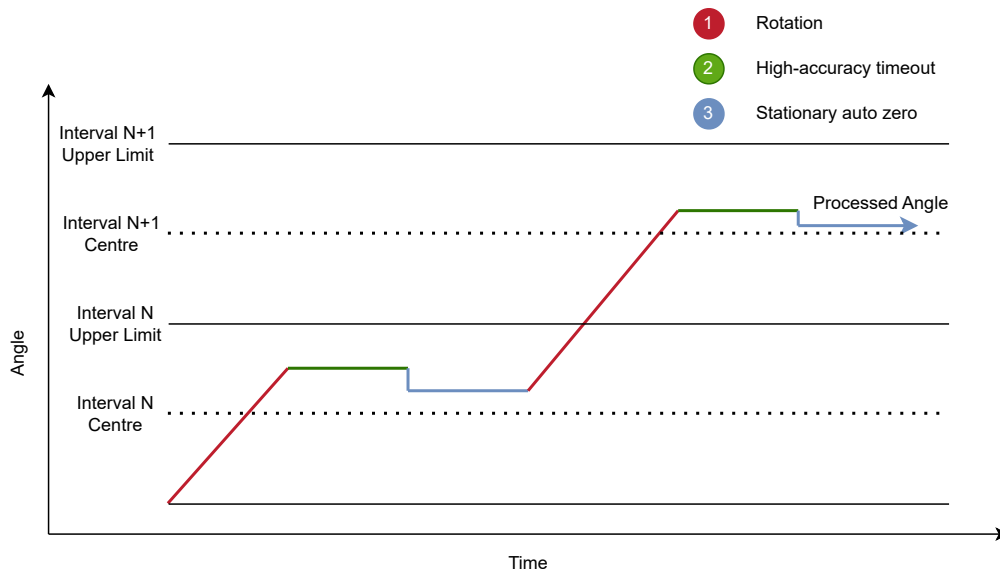

Figure 6.4: Stationary Auto-zero Behaviour
- > **Stationary:** An auto-zero event will occur when the High-Accuracy timeout event occurs. A single adjustment is made to the absolute angle offset each time the device exits High-Accuracy mode. The Auto-Zero Beta parameter defines the size of the adjustment, with an auto-zero beta value of 0 resulting in a jump to the exact center of the interval. This behaviour can be seen in Figure 6.4.